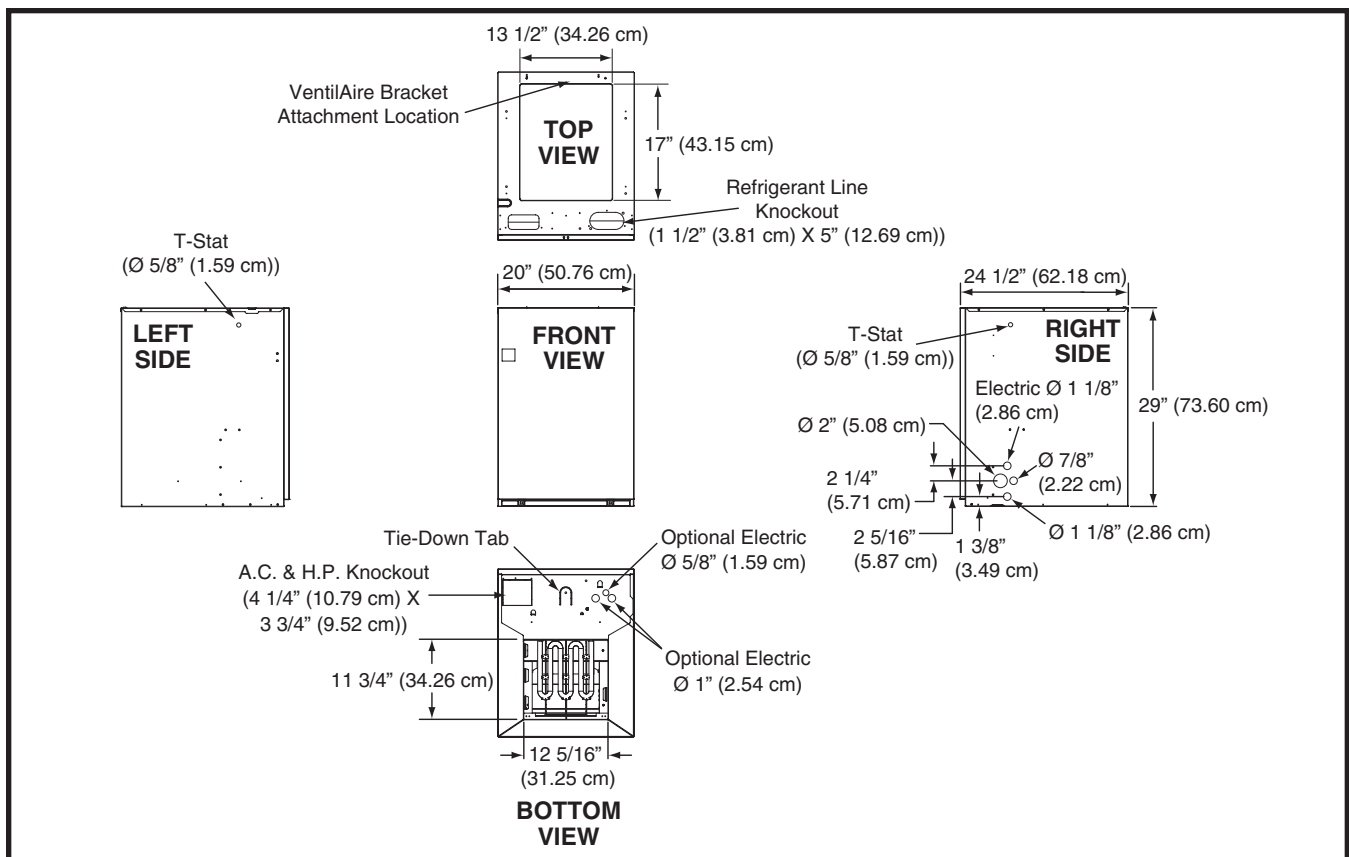
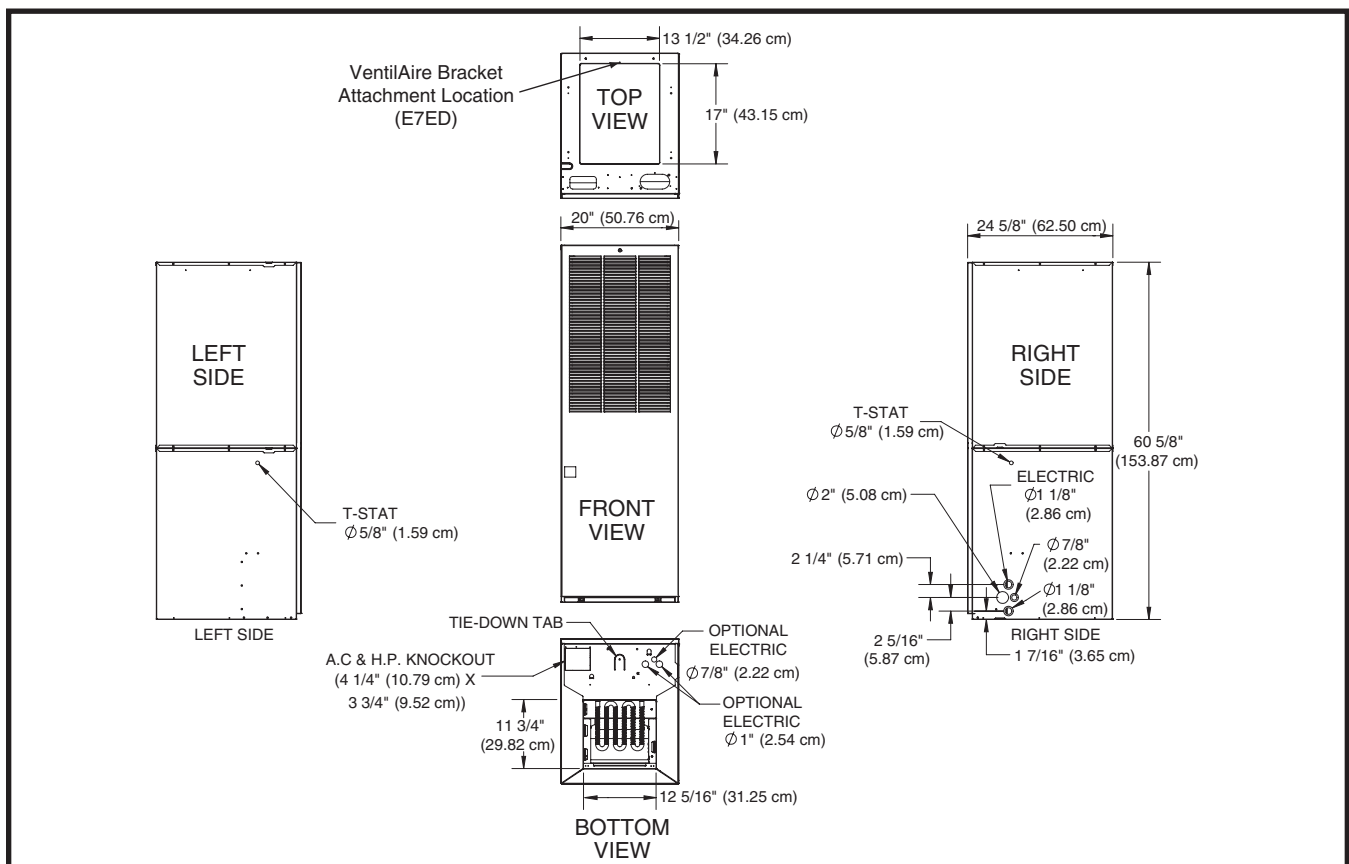

Figure 19. E7EM Physical Dimensions
Figure 20. E7EU & E7ED Physical Dimensions
3. Route 230V supply circuit(s) and 24V wiring to closet. See Figure 19 \(page 14\) or Figure 20 \(page 14\) for appropriate locations.
6. Use optional upflow duct connector or field supplied connector to attach Appliance to overhead supply duct. See Figure 19 \(page 14\) or Figure 20 \(page 14\).